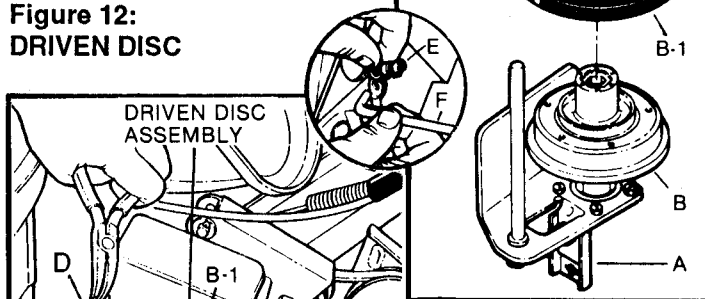

Figure 15: DRIVEN DISC
Remove the five screws (G) and plate securing the driven disc rubber ring (B-1) to the hub (B) and replace the ring as shown in FIG. 15. Reverse procedures for re-assembly and installation.
**BEARING REPLACEMENT:** If the driven disc bearing fails, remove the complete driven disc assembly as previously described. Then remove the snap ring (H) (special pliers are required) and slide the driven disc assembly out of bearing.